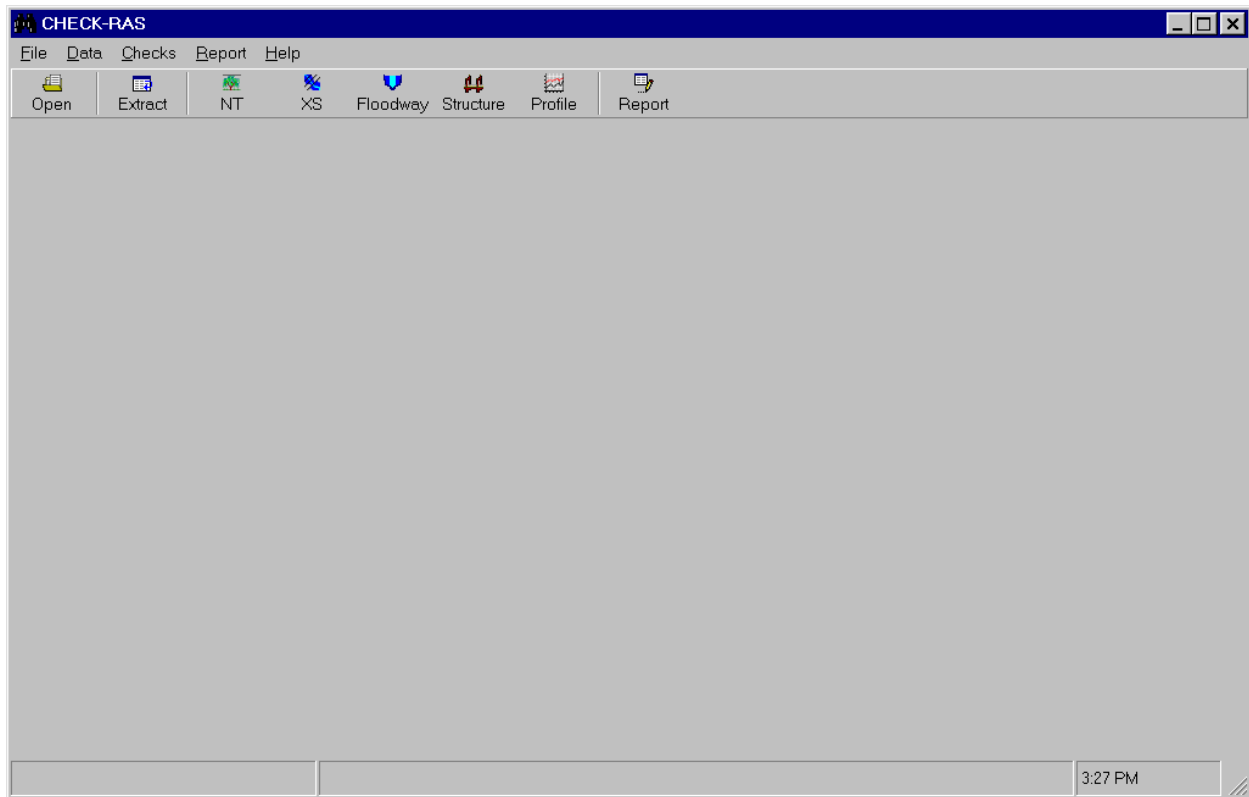

Figure 1. Main Window in CHECK-RAS
2. Click the Start button from the Windows taskbar, point to Programs, point to CHECK-RAS, and click the CHECK-RAS icon. The CHECK-RAS opening screen will briefly display, and the **CHECK-RAS** main window, as shown in Figure 1, will appear.
To access the **CHECK-RAS** main window, click the Start button from the Windows 95/98/NT taskbar, point to Programs, point to CHECK-RAS, and click on the CHECK-RAS icon. The CHECK-RAS opening screen will briefly display, and the **CHECK-RAS** main window (as shown in Figure 1 on page 7) will appear.